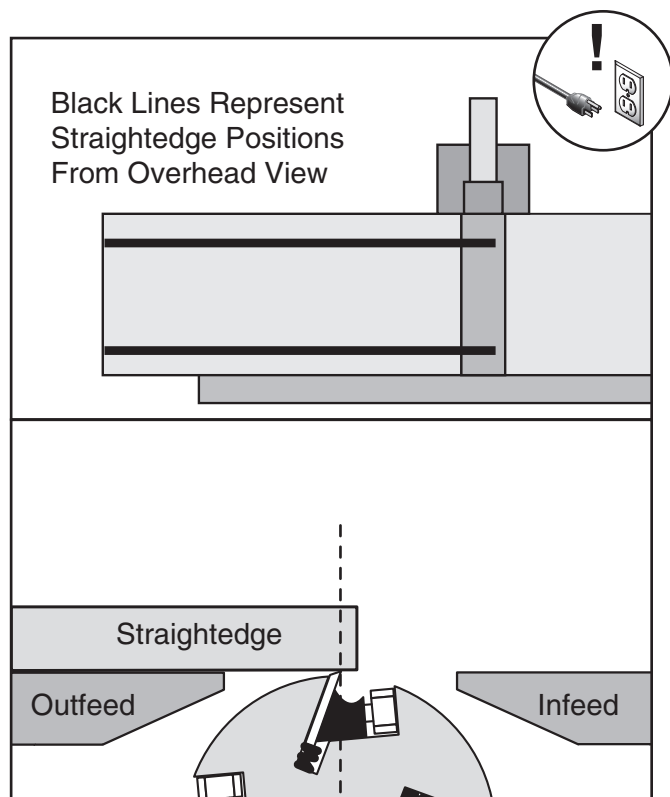

Figure 46. Checking knife height with a straightedge.
3. Using a straightedge on the outfeed table, check the height of each knife at the positions shown in **Figure 46**.
Straightedge Method: A high quality straightedge is held flat against the outfeed table and the knife heights are set to the bottom of the straightedge, as shown in **Figure 46**. Because the knife projection height from the cutterhead is dependent on the outfeed table height, the outfeed table must be set as described in **Setting Outfeed Table Height** on **Page 38** for this method to work correctly.